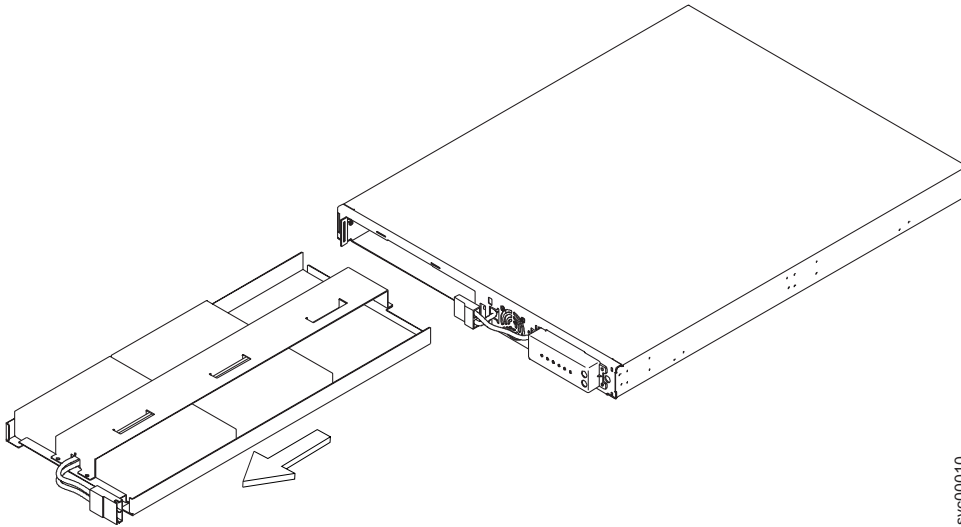

Figure 331. Removing the 2145 UPS-1U battery
5. Slide the battery out of the 2145 UPS-1U, as shown in Figure 331 on page 338, and remove it, laying it on a flat surface.